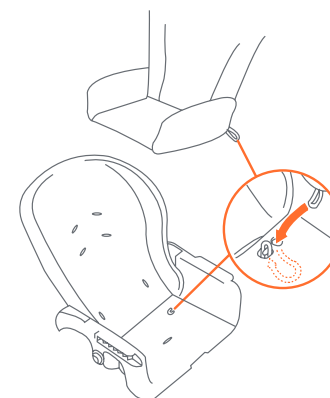

Fig. 20a
- 20) • Attach the bottom of Seat Pad to the Seat Base with the two Elastic loops located at the rear of the bottom of the Seat Pad. These fit over the Attachment Tabs located on the Seat Base near where the Seat Back and Seat Base Join (Fig. 20a).